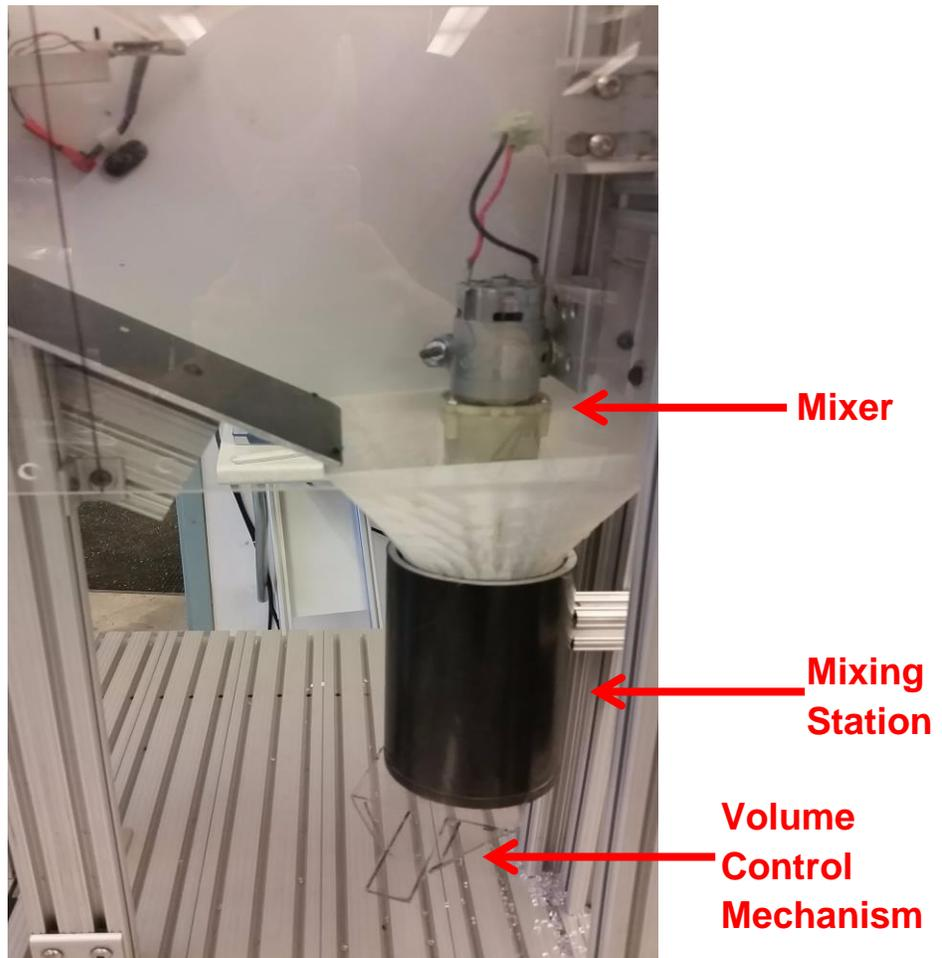
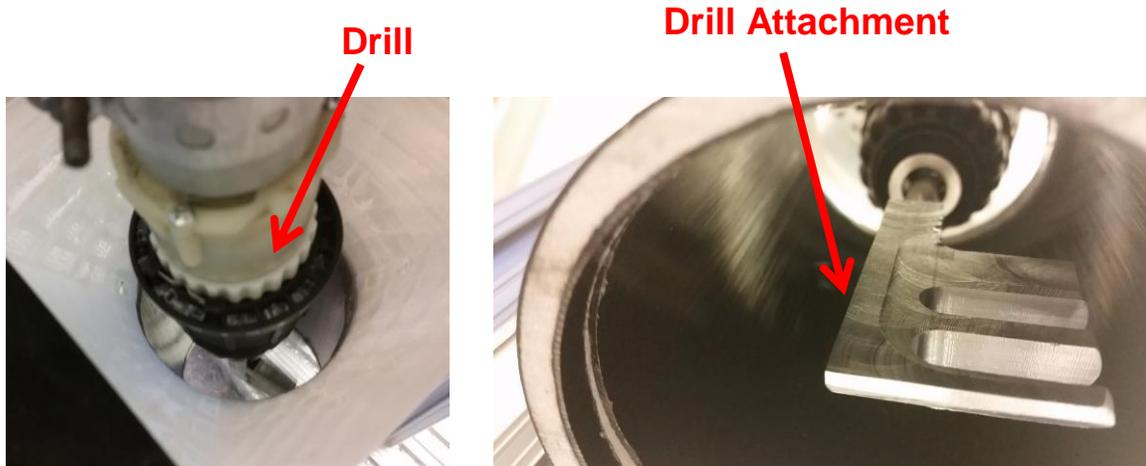

Figure 8. The Mixing Station.
Figure 9. The Mixer.
- Figure 9. The Mixer 11
Figure 8 shows the mixer station. Figure 9 shows the attachment on the end of the drill used to mix the plastic.